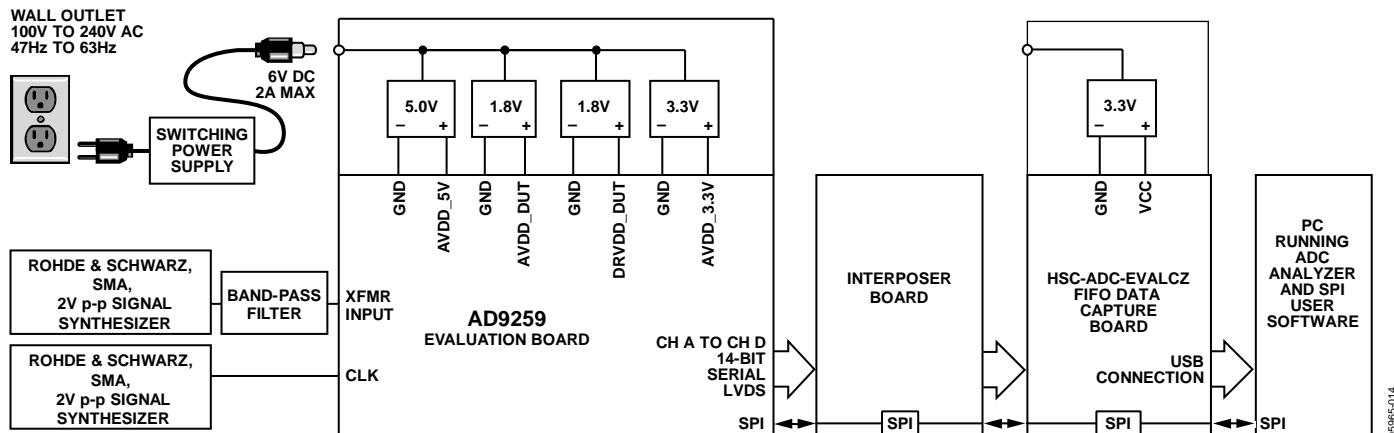
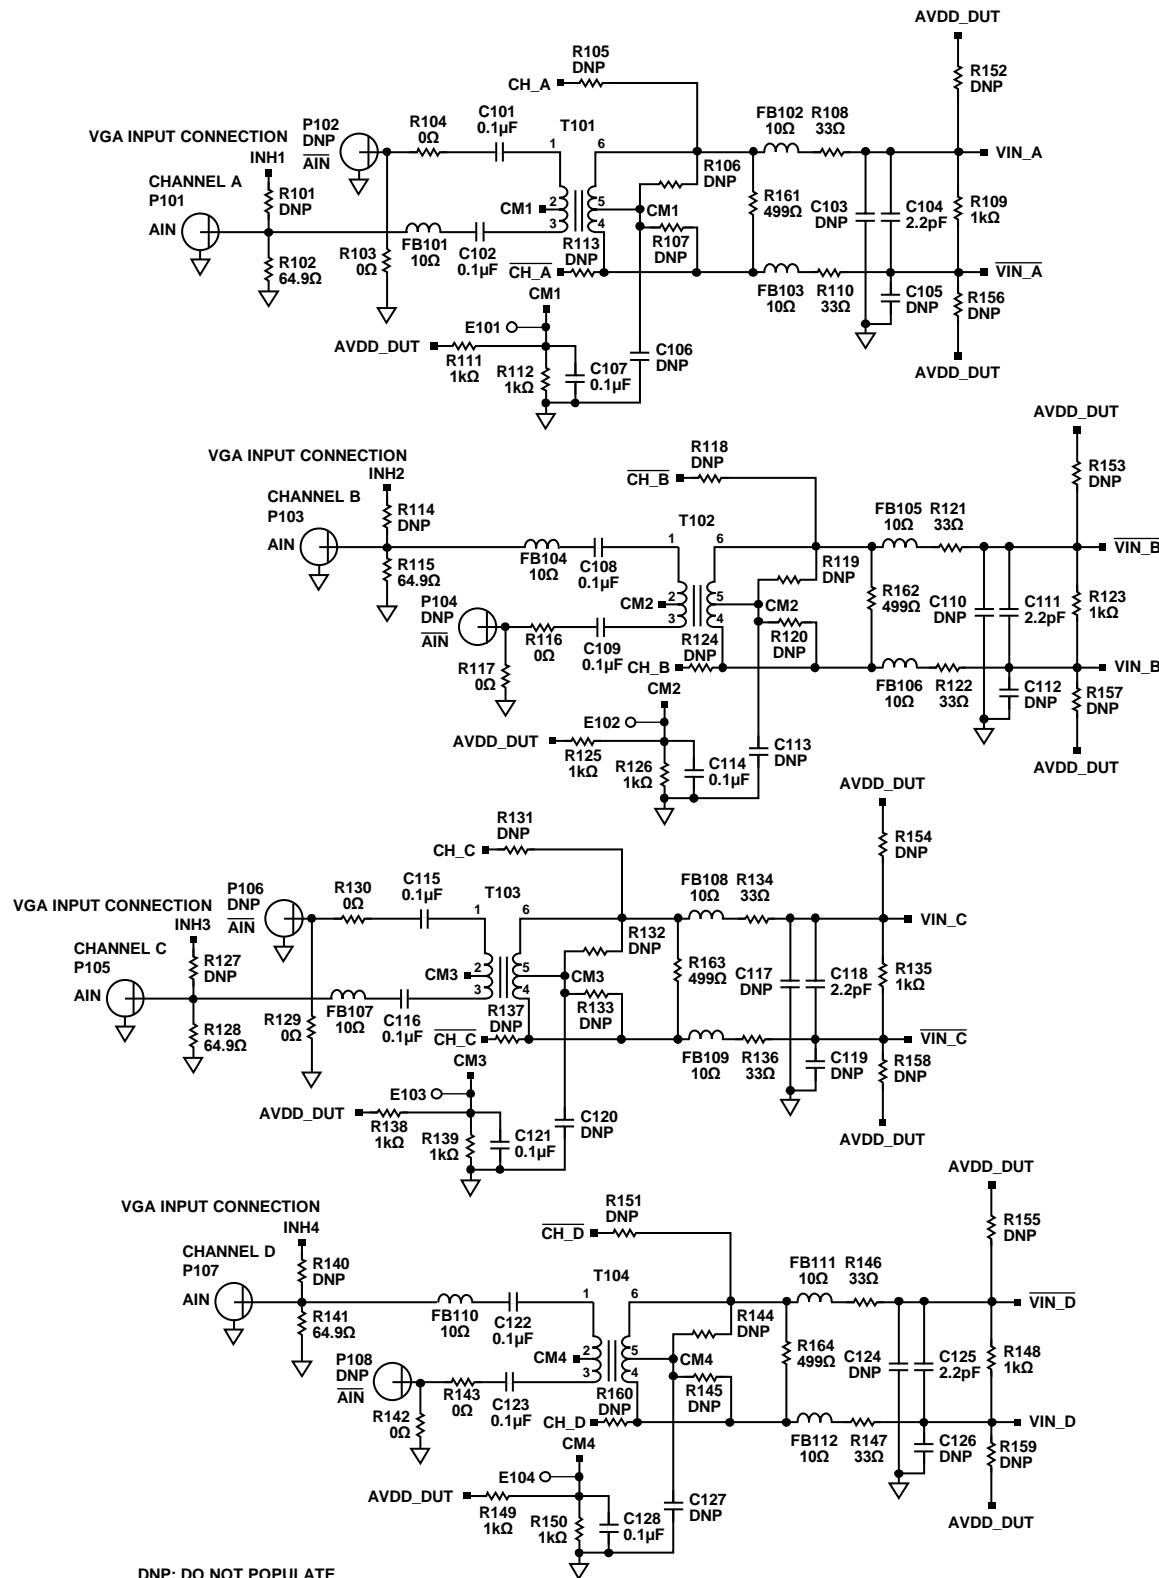
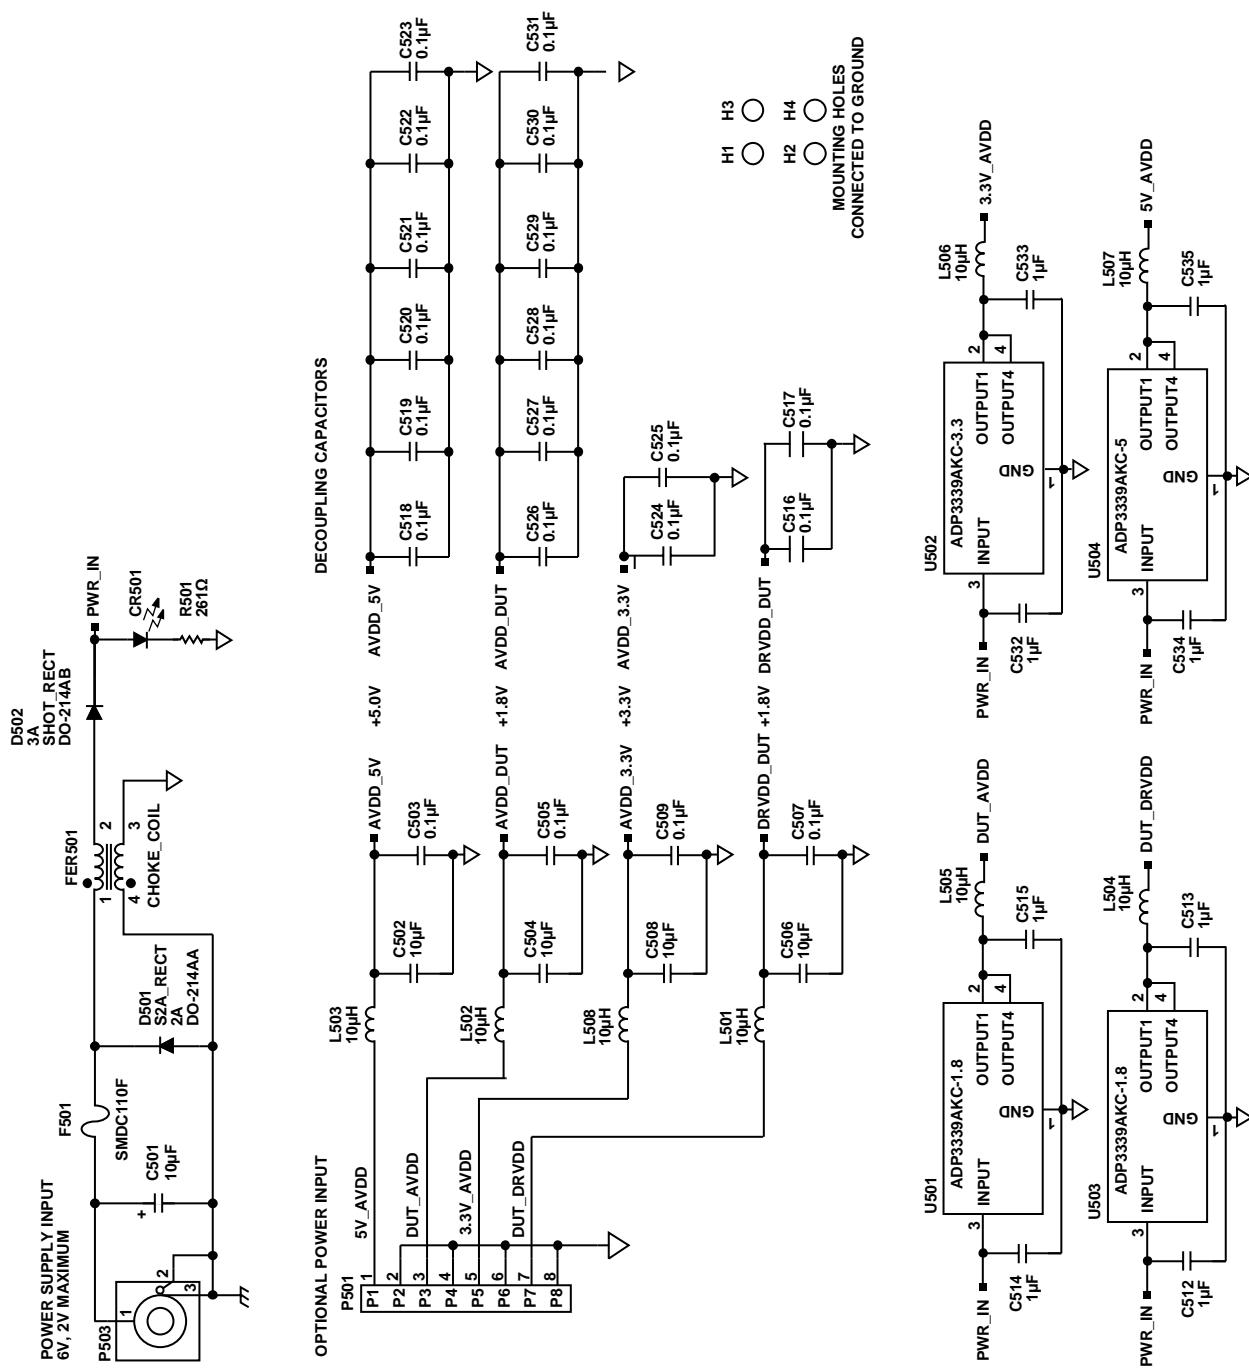
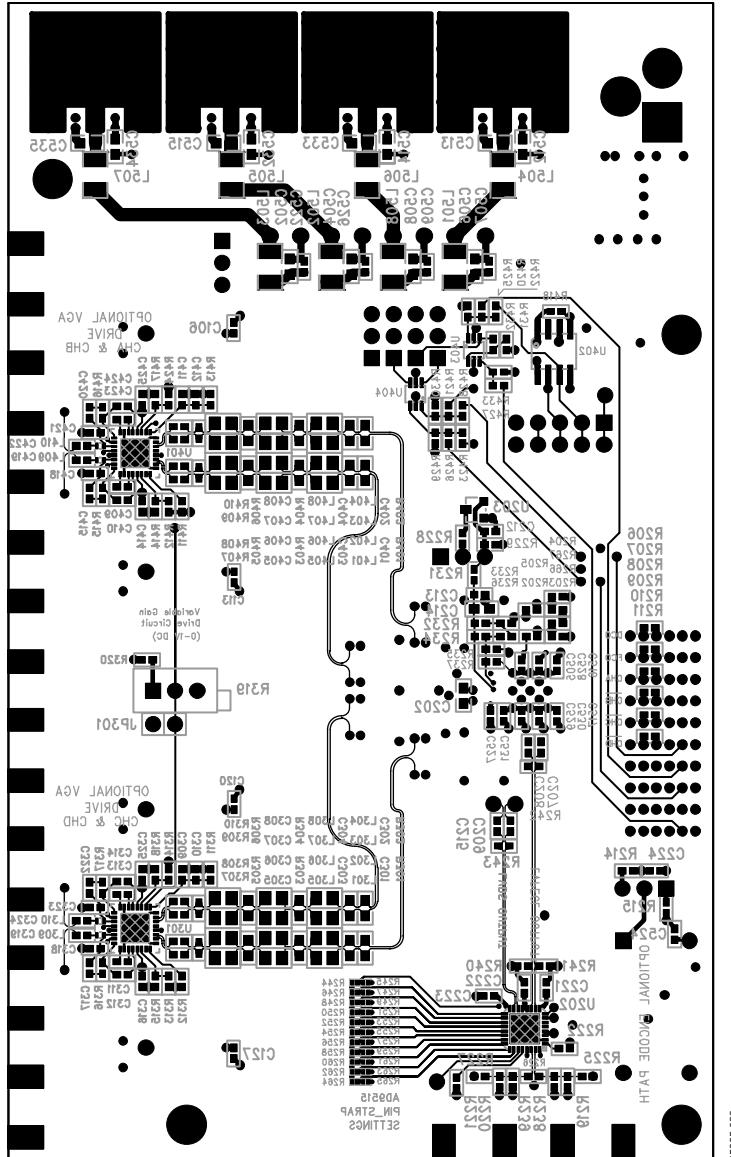

Figure 60. Evaluation Board Connection
Figure 62. Evaluation Board Schematic, DUT Analog Inputs
Figure 66. Evaluation Board Schematic, Power Supply Inputs
Figure 70. Evaluation Board Layout, Secondary Side (Mirrored Image)
The AD9259 evaluation board provides all of the support circuitry required to operate the ADC in its various modes and configurations. The converter can be driven differentially using a transformer (default) or a AD8332 driver. The ADC can also be driven in a single-ended fashion. Separate power pins are provided to isolate the DUT from the drive circuitry of the AD8332. Each input configuration can be selected by changing the connection of various jumpers (see Figure 62 to Figure 66). Figure 60 shows the typical bench characterization setup used to evaluate the ac performance of the AD9259. It is critical that the signal sources used for the analog input and clock have very low phase noise (<1 ps rms jitter) to realize the optimum performance of the converter. Proper filtering of the analog input signal to remove harmonics and lower the integrated or broadband noise at the input is also necessary to achieve the specified noise performance.
See Figure 62 to Figure 70 for the complete schematics and layout diagrams demonstrating the routing and grounding techniques that should be applied at the system level.
- **D + x, D - x:** If an alternative data capture method to the setup shown in Figure 60 is used, optional receiver terminations, R206 to R211, can be installed next to the high speed backplane connector.